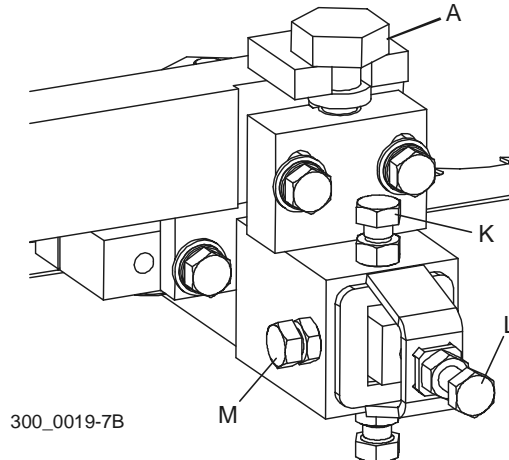

FIG. 5-12
See Figure 5-12. To adjust, loosen one bolt (K) and bolt (M). Slide the blade guide assembly in or out as necessary. Loosen the jam nut on bolt (L) and adjust the bolt until it